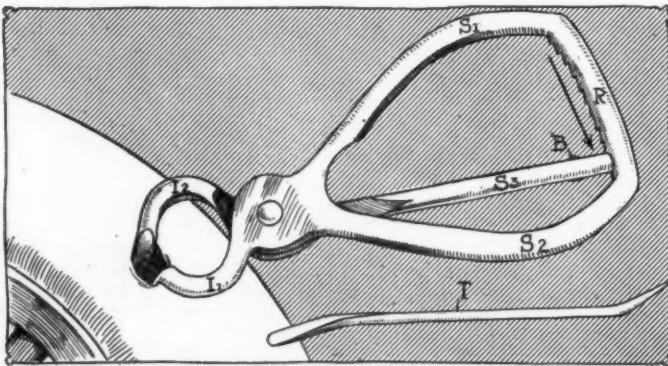

Fig. 2—Gilmer improved repair pliers and cleaning tool
G. Walker Gilmer, Jr., 51 North Seventh street, Philadelphia, Pa., has just brought out a new and improved type of his tire repair pliers which come in very handy in the making of speedy cures on tire casings. Since it is necessary for the efficacy of a cement repair on a casing, that the wound be absolutely clean before the cement is applied, lest the fabric rots, the pliers have been so designed that by their use the wound of the casing may be spread sufficiently wide to permit of thorough cleaning of it. The pliers consist of a triangular shank which carries at one end the jaw I1, Fig. 2, while pivoted to it is the shank S3 which
The subject matter of this patent is a tire valve, Fig. 2, comprising a valve stem S to the outside of which a valve casing C is coupled, the latter being provided with a valve seat SI. A valve V is normally forced against the seat by the air pressure inside the tube. To arrest the movement of the valve stem during inflation a perforated stop is the valve casing is provided; this stop is located some distance away from the valve seat, and a washer is in position between the stop and the end of the valve stem and compressed between them.